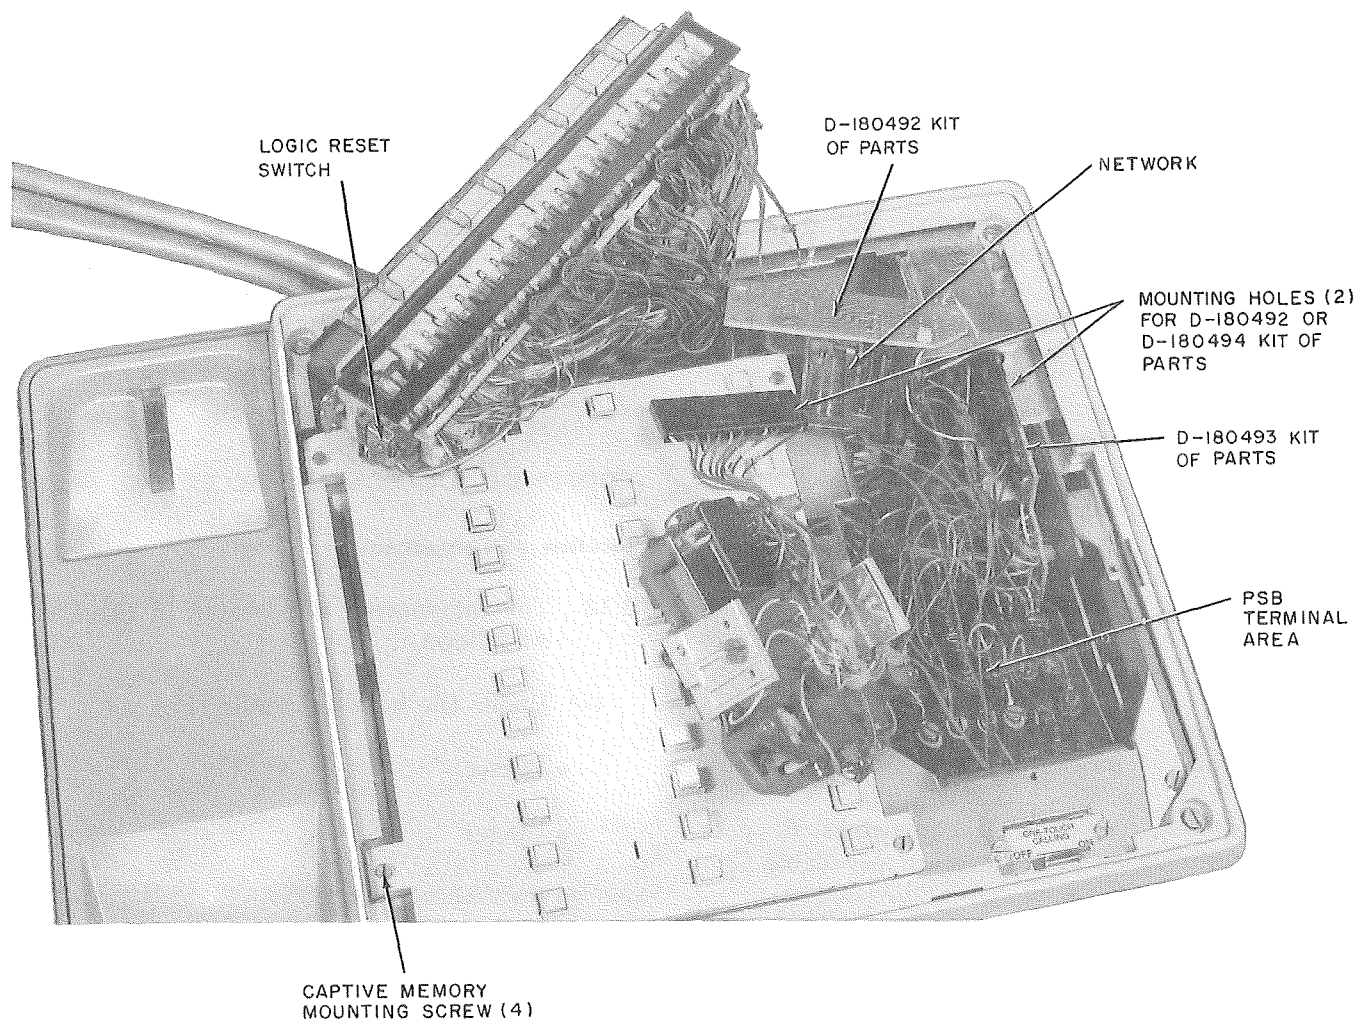
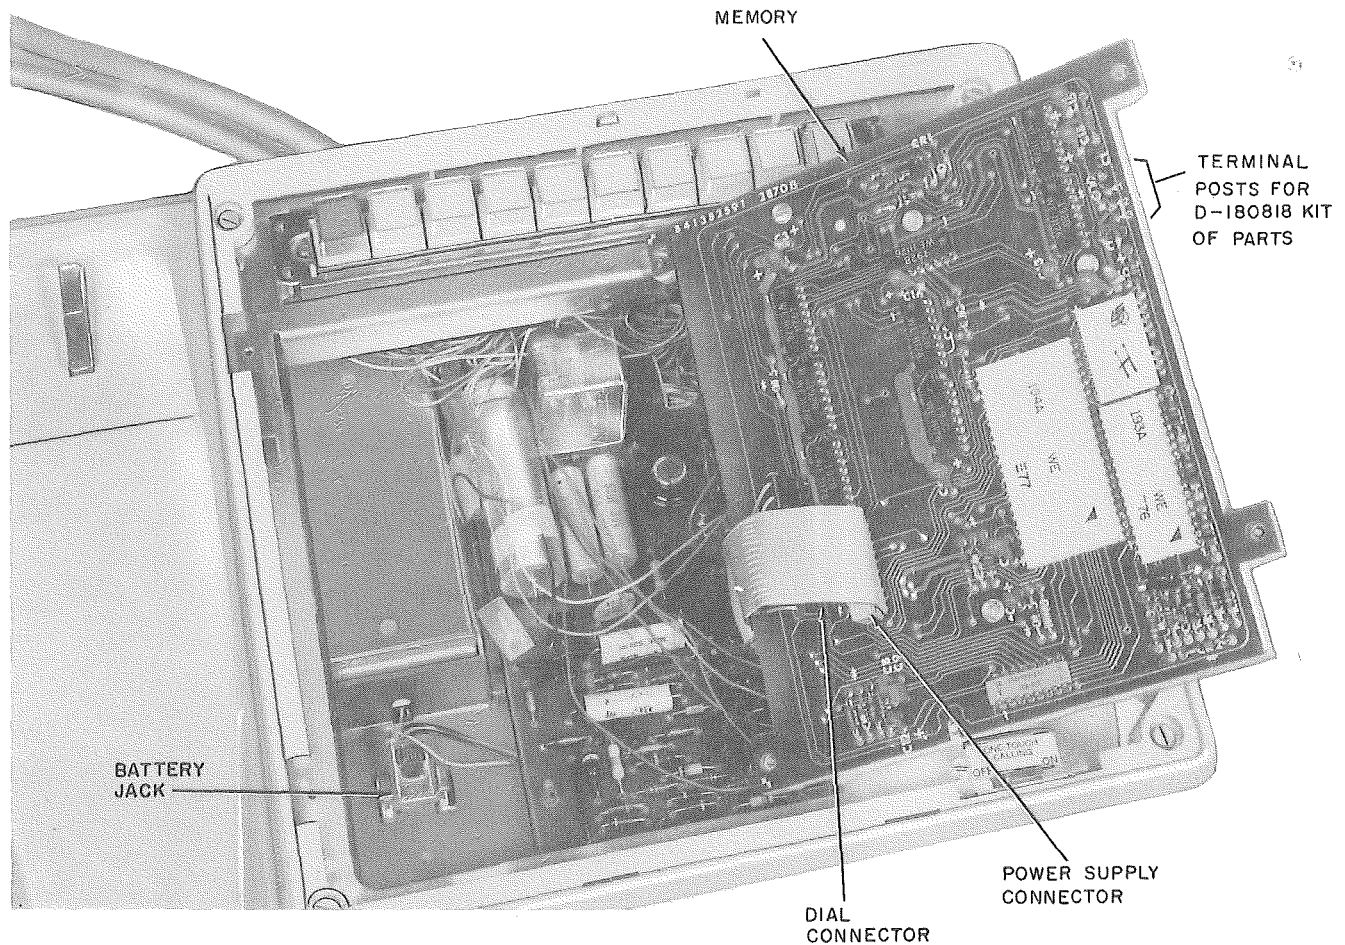

Fig. 4—Telephone Set With Dial Removed to Show Terminal Area
Fig. 5—Telephone Set, Overall Internal View
- (2) Loosen the captive screw at the bottom of the cover around the dial and remove the cover.
- (3) Disengage the four captive memory mounting screws (Fig. 4).
- (4) Disengage the two captive dial mounting screws and move dial aside.
- (5) Rotate left edge of memory upward as shown in Fig. 5.
(b) Under the faceplate, inside the set (Fig. 4 and 5):
- Battery jack (Fig. 5)
- Power supply (PSB) terminal area (Fig. 4)
- Network (Fig. 4)